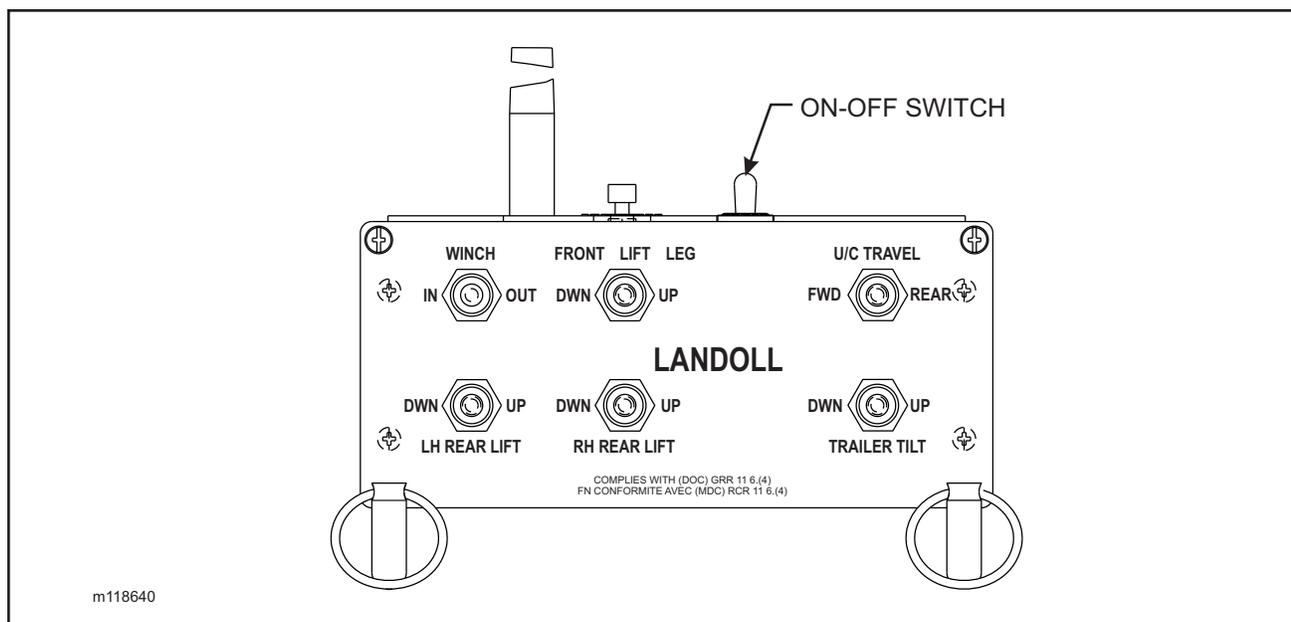

FIGURE 3-4 REMOTE CONTROL SWITCH PANEL
- 3-5.1 The wireless radio remote has six momentary switches that operate the functions as labeled on the hand held remote (See **Figure 3-4**). The remote controls the hydraulic valve that operates the function labeled.